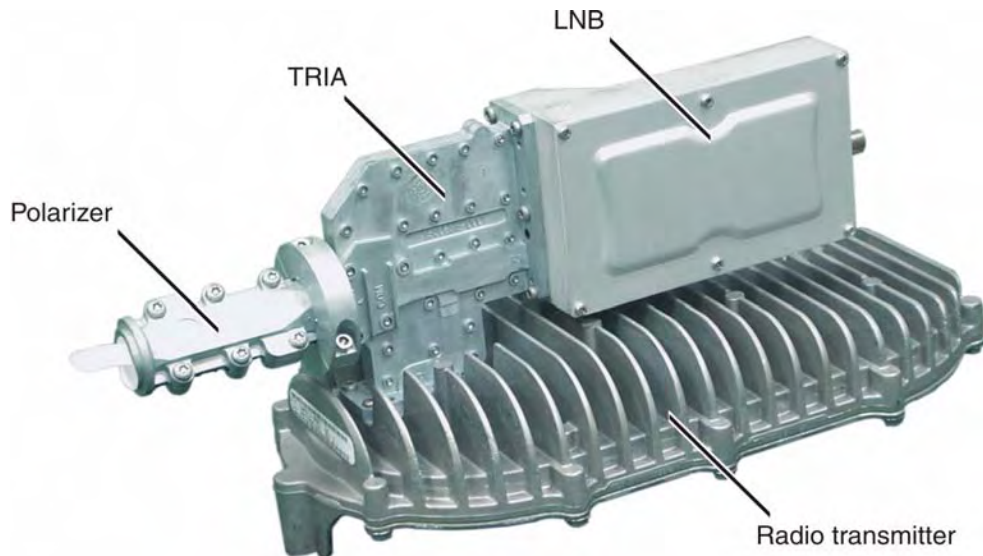

Figure 7: Radio assembly
**Radio assembly** The *radio assembly* shown in Figure 7 consists of the radio transmitter, low noise block converter (LNB), transmit/receive isolation assembly (TRIA), and polarizing waveguide.